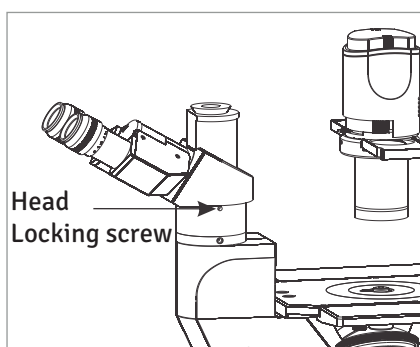

Fig. 11
1. Loosen the Head Locking screw using allen wrench 2.0mm (provided with the microscope) to such a position where it does not come out. See fig. 11.